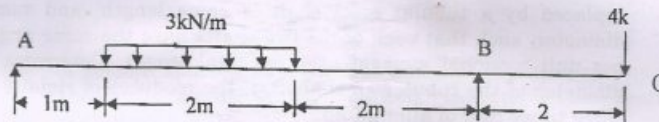

Fig. 6
- (b) An overhanging beam ABC supported at A and B is loaded as shown in Figure 6. Determine the deflection at the free end, and maximum deflection between A and B. Take $I = 600 \text{ cm}^4$ and $E = 2 \times 10^8 \text{ N/mm}^2$. (15)